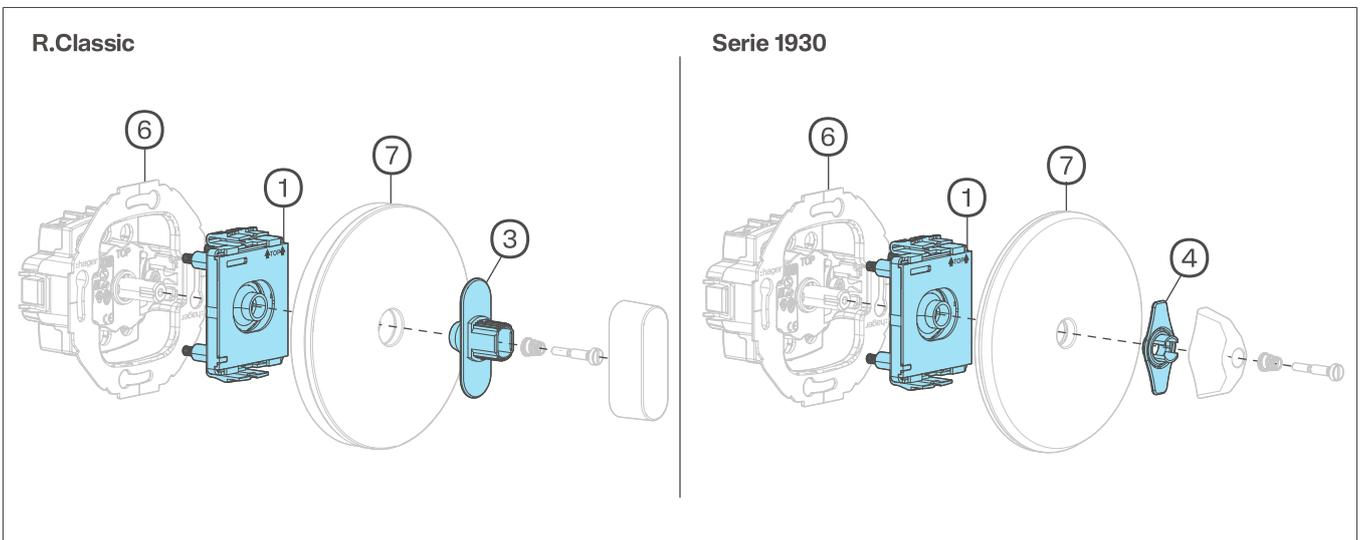

Fig. 2: Final installation for R.classic/Serie 1930
- 💡 – Pay attention to the assembly sequence (Fig. 2). Install the cover plate (8) first and then the light conductor (3).